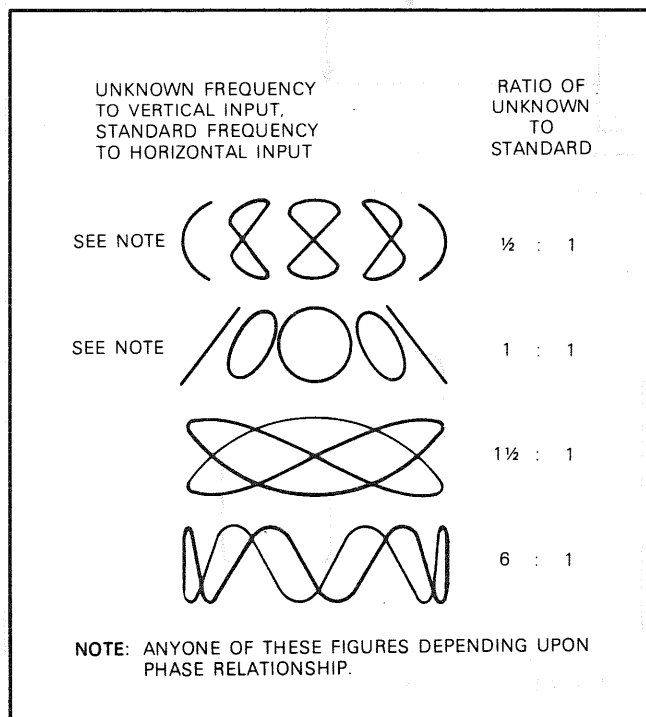

Fig. 22 Lissajous' waveforms used for frequency measurement
4. The resulting pattern, called a Lissajous pattern, shows the ratio between the two frequencies. See Fig. 22.